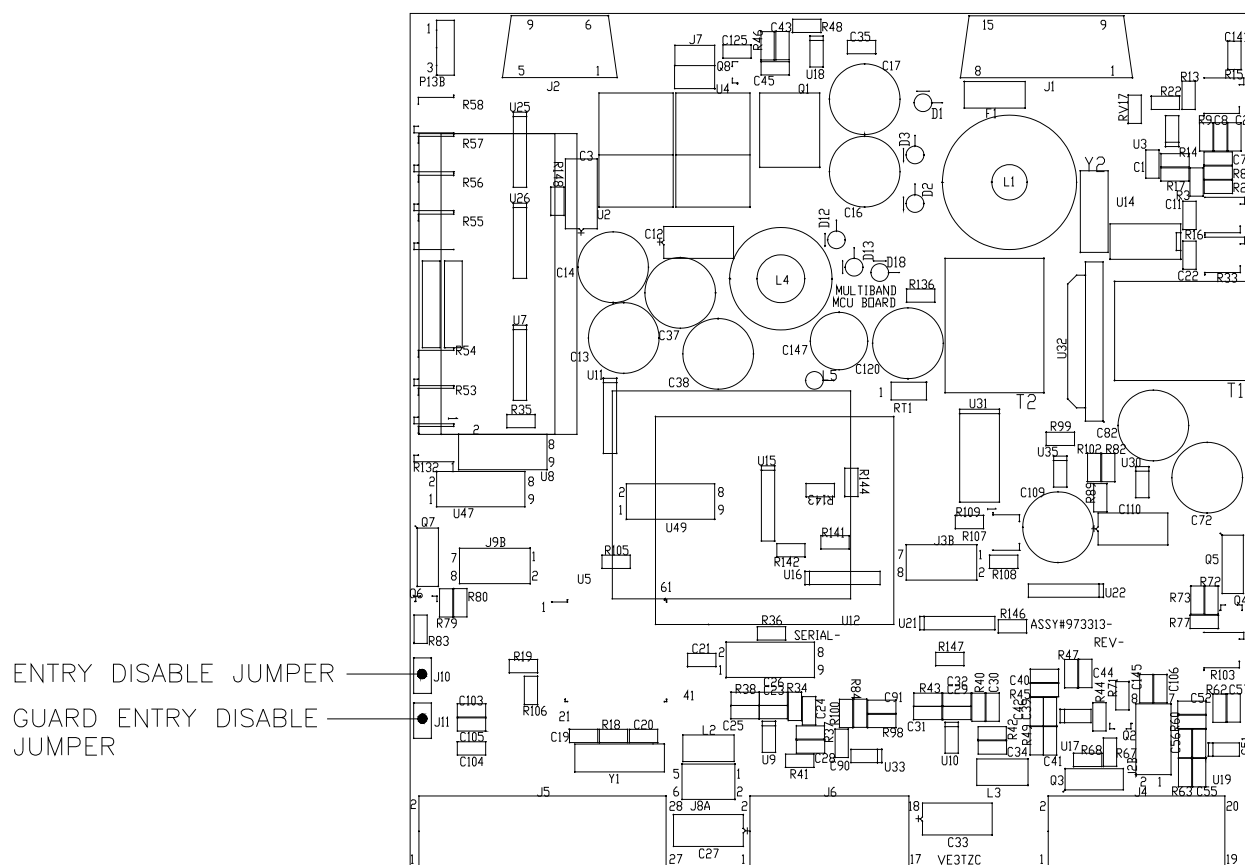

FIGURE 3.3 Internal Enable/Disable Jumper Locations
3. In low power mode, adjust the appropriate potentiometer on the left side of the chassis (see Figure 3.3) to produce 1.0 watt of RF output power for VHF-FM (VHF TX LO) or AM (AM TX LO) and 100 milliwatts for UHF (UHF TX LO).